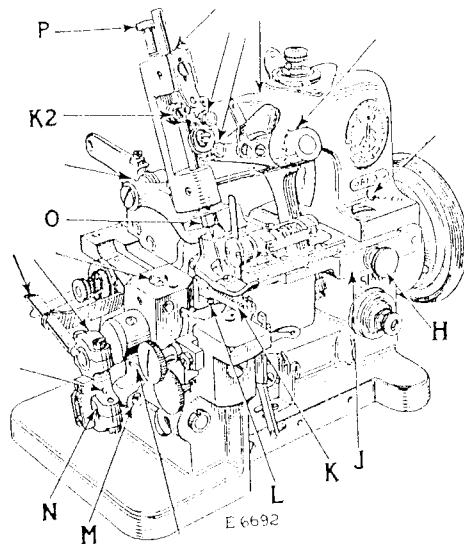
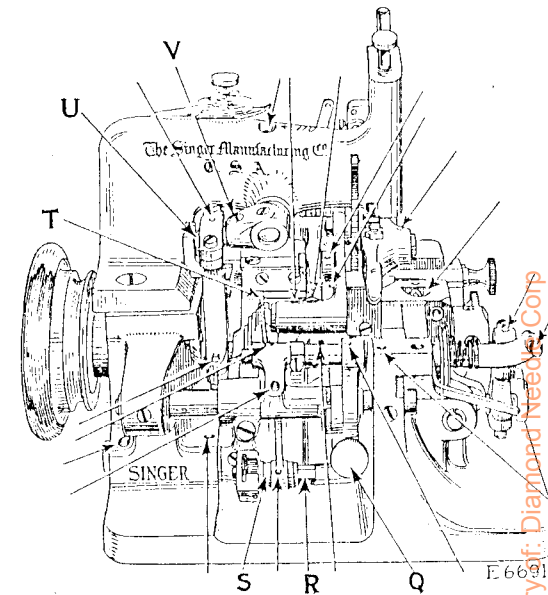
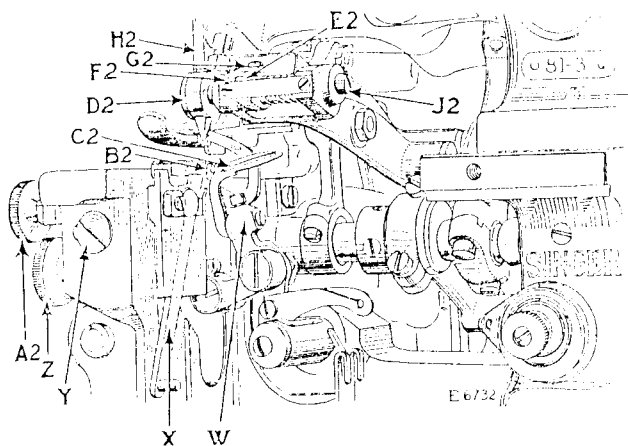

FIG. 2. OILING POINTS AT THE FRONT OF THE MACHINE
FIG. 3. OILING POINTS AT THE BACK OF THE MACHINE
FIG. 8
Turn the balance wheel over from you until the needle bar has risen  $\frac{3}{32}$  inch from its lowest position. The point of the left hand looper, on its loop taking stroke, should then be at the centre of the needle, and the eye of the needle should be about  $\frac{1}{16}$  inch below the looper point. If the needle bar is not at the correct height, loosen the pinch screw (K2, Fig. 2) and move the needle bar upwardly or downwardly as required, then securely tighten the pinch screw (K2).
A variation in the amount of needle bar stroke can be obtained by adjusting the ball stud (U, Fig. 3). To lengthen the stroke, loosen the set screw (V, Fig. 3) and move the ball stud inwardly or toward the crank. To shorten the stroke of the needle bar, move the ball stud (U) outwardly or away from the crank, then securely tighten the set screw (V).
The left hand looper (C2, Fig. 8) should be set in the looper carrier (W, Fig. 8) so that the point of the looper on its loop taking stroke just brushes the needle. The point of the right hand looper or spreader should pass at the recess back of the left hand looper eye as closely as possible without touching it.
A variation in the amount of the looper motion can be obtained by adjusting the ball stud (N, Fig. 2). To increase this motion, loosen the set screw (M, Fig. 2) and move the ball stud (N, Fig. 2) inwardly or toward the crank. To decrease the motion, move the ball stud outwardly or away from the crank. After the desired motion has been obtained, securely tighten the set screw (M, Fig. 2).
Oil should be applied to all oil holes marked "Oil" and to all oiling places indicated by arrows in Figs. 2 and 3.
Loosen the clamping nut (O, Fig. 2) at the lower end of the needle bar and put the needle up into the bar as far as it will go, with the ground-out side at the back, or farthest from you. Then tighten the clamping nut (O).
The length of stitch is regulated by the feed regulator (S, Fig. 3). With the wrench provided, loosen the screw stud (R, Fig. 3) and move the regulator backward or forward until the indicator (T, Fig. 3) points to the number, on the indicator plate, designating the required stitch. Then securely tighten the screw stud (R).
The pressure on the material is regulated by means of the thumb screw (P, Fig. 2). To increase the pressure, turn this thumb screw downwardly. To decrease the pressure, turn the thumb screw upwardly.
The lower knife (X, Fig. 8) should always be fastened in position when removing or replacing the upper knife. The lower
To take out the lower knife (X, Fig. 8), loosen the thumb screw (A2, Fig. 8) and press the upper knife holder (D2, Fig. 8) toward the balance wheel, then draw the knife out downwardly. To replace the lower knife, have the presser foot and feed down, press the upper knife holder toward the balance wheel, and push the lower knife upwardly so as to touch the presser foot without lifting it, or so that it is just flush with the top of the throat plate, then tighten the thumb screw (A2, Fig. 8). To adjust the trimmer sidewise, loosen the thumb screw (H, Fig. 2) and move the extension bracket (J, Fig. 2) to the right or away from the upper knife, loosen the screw (Y, Fig. 8) and turn the thumb screw (Z, Fig. 8) inwardly or outwardly until the trimmer is in the desired position, then securely tighten the screw (Y). Move the extension bracket (J, Fig. 2) back toward the upper knife, leaving just enough clearance between the upper knife and the bracket so as to allow free movement of the upper knife, then tighten the thumbscrew (H, Fig. 2).
To remove the upper knife (H2, Fig. 8), loosen the screw (J2, Fig. 8) at the end of the knife holder, press the knife holder (D2) toward the balance wheel and remove the knife. When replacing the knife, have the knife holder in its lowest position and pressed toward the balance wheel, insert the knife and set it so that its cutting edge is just below the cutting edge of the lower knife, then tighten the clamping screw (J2).
To adjust the tension on the upper knife, loosen the set screw (G2, Fig. 8) and move the knife holder guide (E2, Fig. 8) toward the balance wheel until the distance between the knife lever (F2, Fig. 8) and the guide (E2, Fig. 8) is equal to the thickness of the upper knife when the knives are in contact with each other, then securely tighten the set screw (G2).
The feed dog (K, Fig. 2) should be set so that when it is raised to its highest point by the feed lifting eccentric the full depth of the teeth will project above the throat plate. The feed dog (K) can be set at the desired height after loosening the screw (L, Fig. 2). When the feed dog is set at the required height, securely tighten the screw (L).
When very elastic materials are to be sewn on any of the following machines: 81-3, 81-4, 81-6, 81-7, 81-20 and 81-21, the back feed dog (B2, Fig. 8) should remain in its raised position only long enough to permit the work to come out flat. To adjust the back feed (B2), turn the adjusting thumb screw (Q, Fig. 3) inwardly to lengthen its duration of feed and outwardly to shorten its duration of feed.